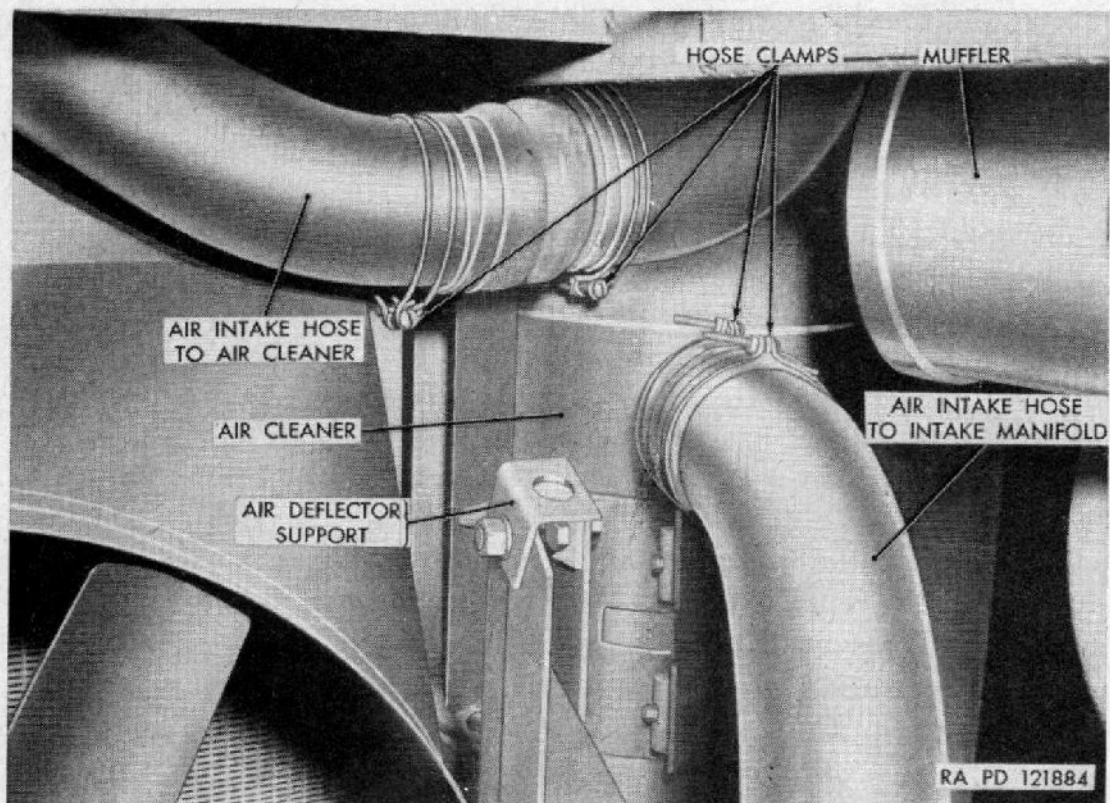

Figure 36. Air intake hose connections.
c. Remove Air Intake Pipes and Engine Hood Grilles from Roof of Cab. Loosen clamps on hoses connecting rear end of pipes to air cleaners (fig. 36). Remove the two cap screws from each clip attaching air intake pipes to top of cab (fig. 3). Remove four cap screws